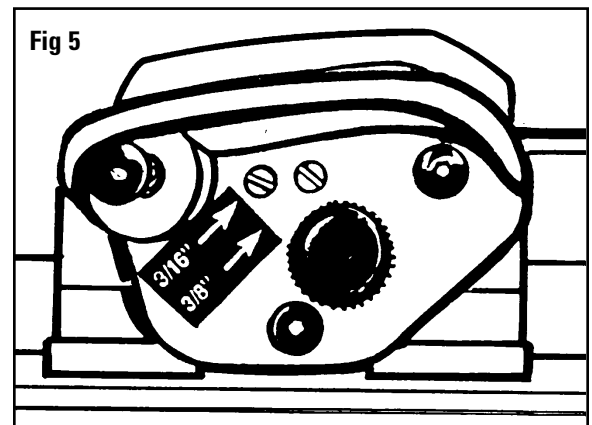

Fig 5
5. **IMPORTANT** After finishing the cut make sure you pull the lock-down pin out to allow the blade holder to go back to the neutral position. **Fig 5**
Maintaining downward pressure, pull the cutting head towards yourself until edge of the metal near the red dot on the indicator plate is directly over the bottom marked line. **Fig 5**
8. Release the stop foot with your finger so that it raises above the edge of the mat board and pull the cutting head towards yourself until it makes gentle contact with the bottom production stop. **Fig 5**
Located on the side of the straight cut head, use screwdriver provided to turn screw (**Fig. 5**). Remove blade and tighten desired screw. **DO NOT OVER-TIGHTEN**. Replace blade and tighten knob.